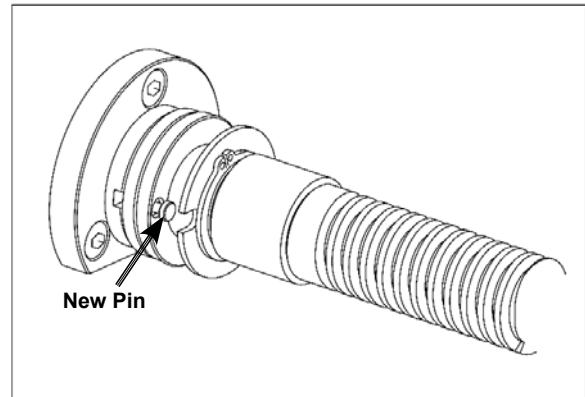

Figure 106. New shear pin installed in bore.
9. Insert the new shear pin into the bore, as shown in Figure 106.